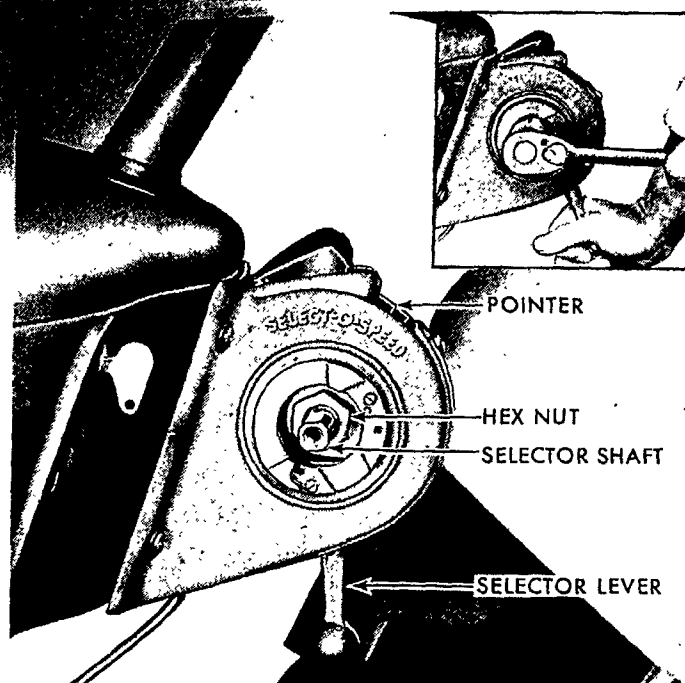

Figure 25
1. Remove the left-hand selector shaft cover to expose the shaft and hex nut as shown in Figure 25.
2. Move the selector lever to the neutral position and, with a suitable wrench, such as a deep well socket, loosen the nut while holding the lever securely in the detent, as shown in the insert, Figure 25.